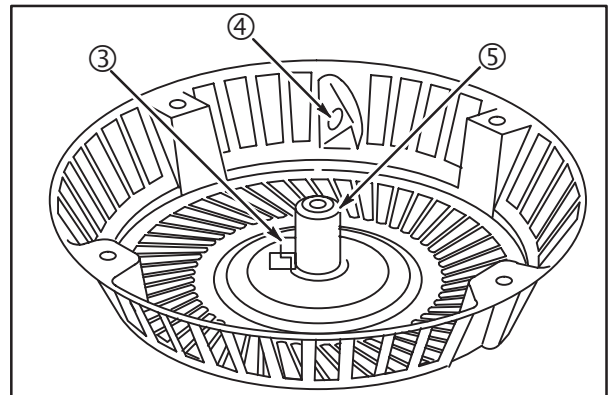

Fig. 59
Inspect starter housing for wear or sharp edges at rope eyelet (4), center pivot post (5), and inner spring anchor (3) tab, **Fig. 59.** Replace housing if worn or damaged.